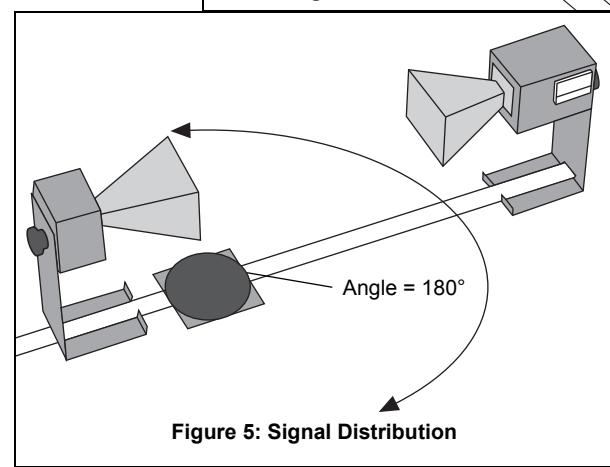

Figure 5: Signal Distribution
8. Position the Transmitter so the output surface of the horn is centered directly over the center of the Degree Plate of the Goniometer arm (see Figure 5). With the Receiver directly facing the Transmitter and as far back on the Goniometer arm as possible, adjust the Receiver controls for a meter reading of 1.0. Then rotate the rotatable arm of the Goniometer as shown in the figure. Set the angle of rotation (measured relative to the 180-degree point on the degree scale) to each of the values shown in Table 2, and record the meter reading at each setting